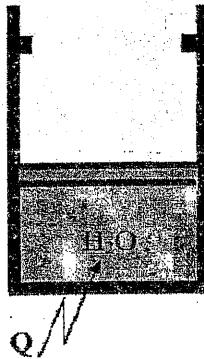

Figure P.9
9. A piston cylinder device shown in Figure P.9 contains 2 kg of water initially at a pressure of 500 kPa with a quality of 20 %. The water is heated until it becomes a saturated vapor. The volume of the system when the piston is at the upper stops is 0.4 m^3 . Sketch the process on P-v and T-v diagrams and determine: